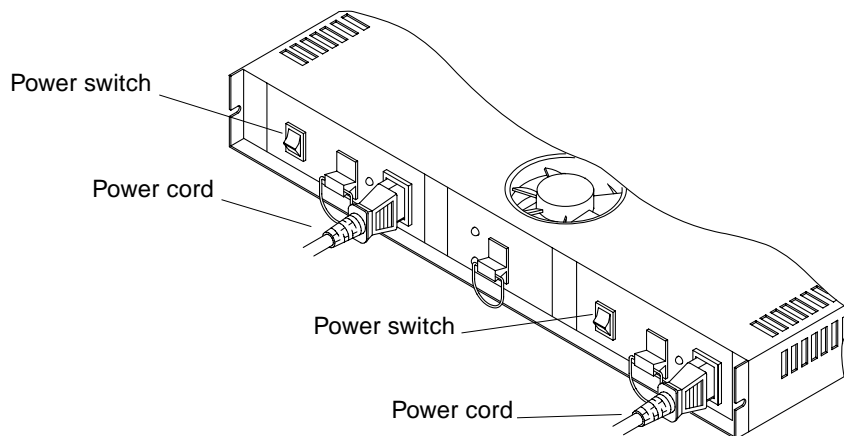

FIGURE 7-1 Power Switch and Power Cord Location
3. **Disconnect the power cord from the failed power supply (FIGURE 7-1).**
7. Plug in the power cord and turn the power switch to the On position (FIGURE 7-1).